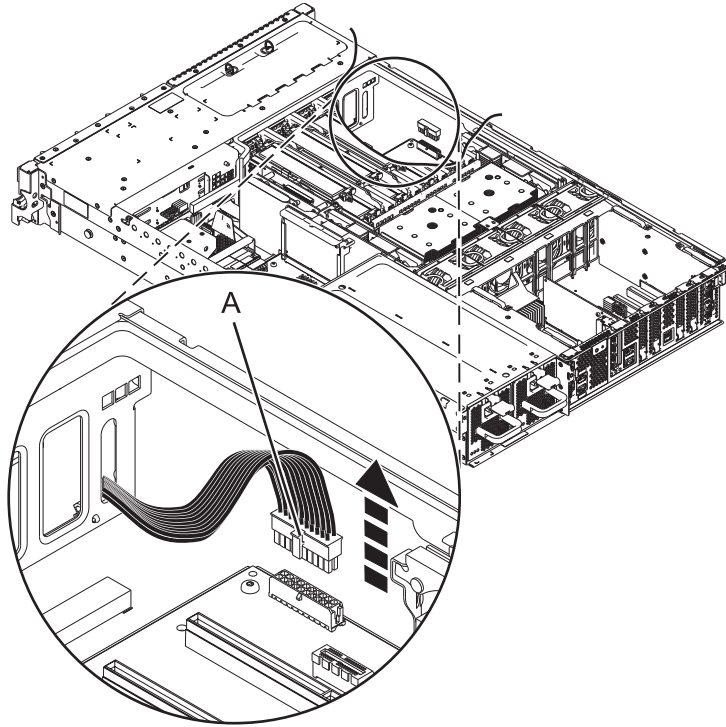

Figure 7. Removing the front fan cable
21. Remove the front fan cable. See Figure 7 on page 11.